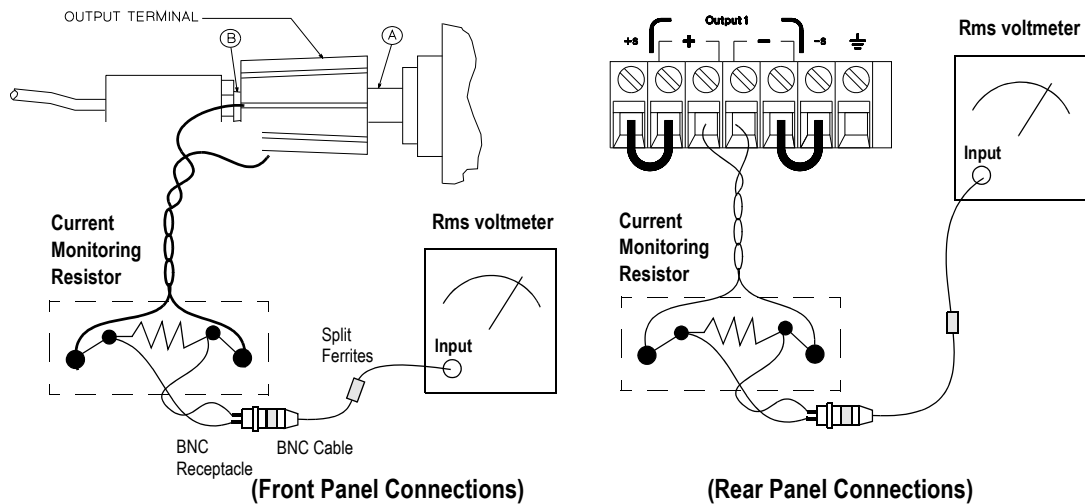

Figure 8-6 CC PARD connections (ripple and noise)
For better measurement results, it is recommended to make the connection between the BNC receptacle and the output terminals as short as possible, and to use the recommended split ferrites with the BNC-to-BNC cable as shown in Figure 8-6.
- 1 Turn off the power supply and connect the output to be tested as shown in Figure 8-6 with the current monitoring resistor $0.2\ \Omega$ (R_{M2}) across output terminals. Connect an rms voltmeter across the current monitoring resistor as shown in Figure 8-6.